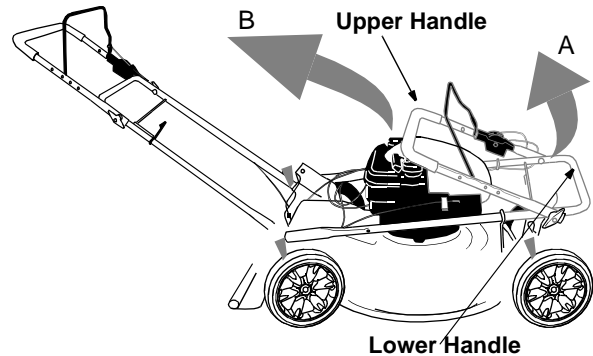

Figure 2
- Raise lower handle in direction A shown in Figure 2. It should snap into place.
- Raise the upper handle in the direction B shown in Figure 2. Tighten the wing nuts which are already on the handle.